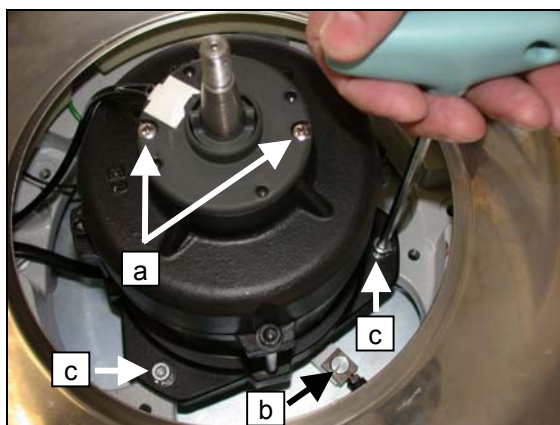

Fig. 11
- Undo the screws of the speed sensor to separate it from the upper end plate of the motor (two screws (Fig. 11, a)) and place it in the centrifuging chamber.
- Undo the screw (Fig. 11, b) of both laterally mounted vibration dampers. Take care that the screws do not fall into the motor area.
- Undo the three fastening screws (Fig. 11, c) on the lower end plate of the motor.
- Undo the screws to separate the speed sensor from the upper end plate of the motor (two screws (Fig. 11, a)) and remove it.